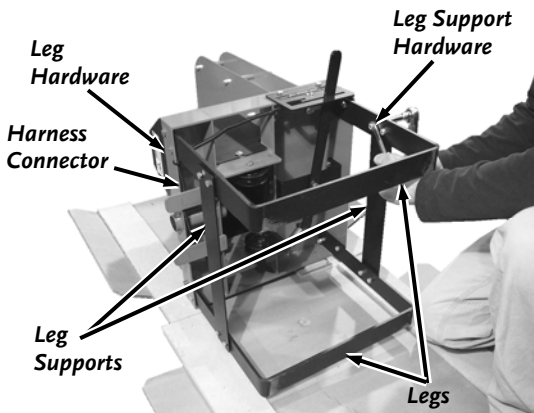

Figure 7
HARDWARE PACKAGE CONTENTS (FIGURE 7)
1. Position the Legs onto the Chipper Body and install the Bolts and Locknuts snug but not tight (**Figure 7**).